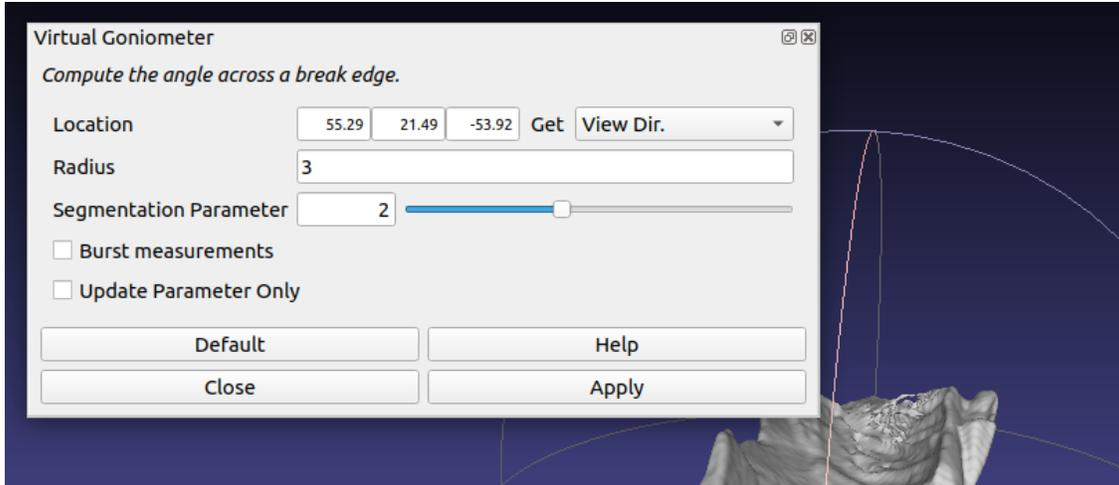

Figure 1: Virtual goniometer menu dialog box.
- **Single vertex selection:** If the user selects only a single vertex (or less than 10 vertices), then the plugin will open a dialog box (see Figure 1) requesting the user enter the (x, y, z) coordinates and a radius r for the measurement. The box also has a segmentation parameter the user can change, and options to take a burst measurement, or to only change the segmentation parameter without taking a measurement. If the user selected at least 1 vertex (and less than 10), then the (x, y, z) coordinates in the dialog box are populated with the coordinates of one of the selected vertices (the first one encountered looping over the mesh).